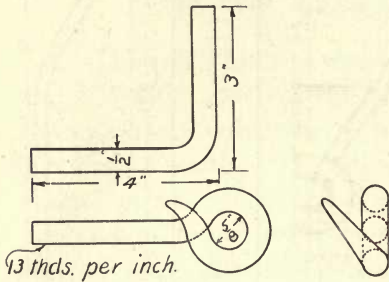
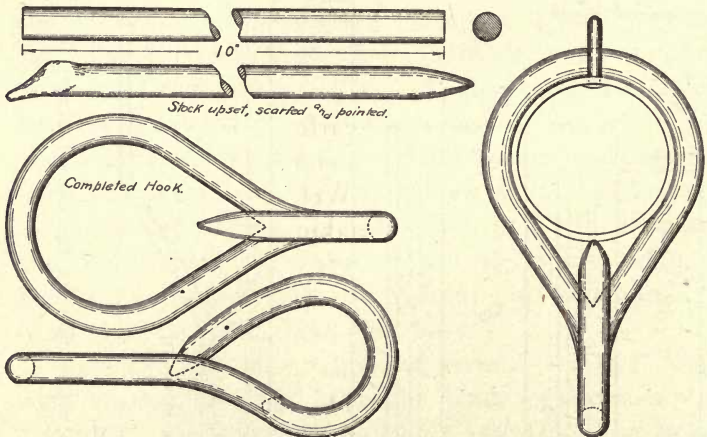

FIG. 208.—SINGLETREE HOOKS.
FIG. 209.—CLIPS FOR ENDS OF SINGLETREES.
2. If hooks as shown in Fig. 208 are to be used at the ends of the singletrees, make them of $\frac{1}{2}$ " round iron. One end of each is drawn out to a blunt point and then
3. Clips as shown in Fig. 209 are better for the ends of the singletrees than the hooks shown in Fig. 208. For the flat rings covering the ends of the singletrees,